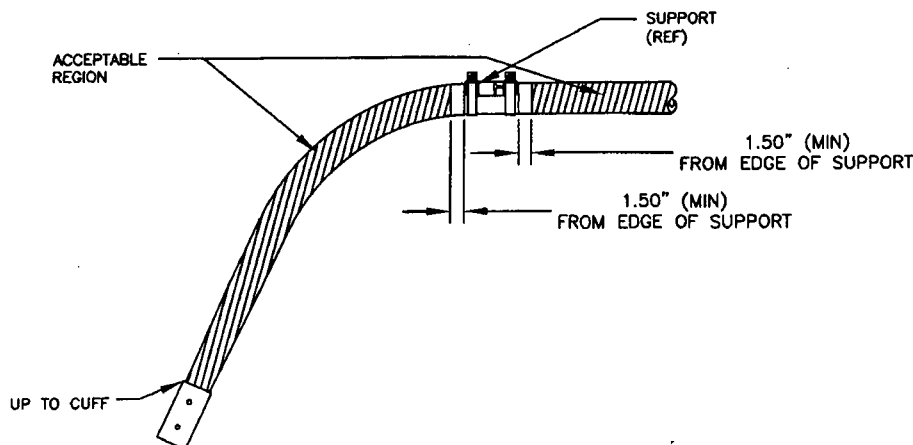

FIGURE 1 – ACCEPTABLE REGIONS TO BE COATED WITH ARMOR SHIELD
To designate crosstubes with 'Armor Shield' add 'A' to the Part Number. For example, D206-667-101A is a D206-667-101 crosstube coated with Armor Shield. It is acceptable to apply the Armor Shield in regions shown in Figure 1 only. It is **NOT** acceptable to apply Armor Shield in the cuff and support/clamp regions.
- 2) Mask areas around supports and cuffs per Figure 1. Abrade paint finish in areas requiring protection using 320 grit sandpaper.